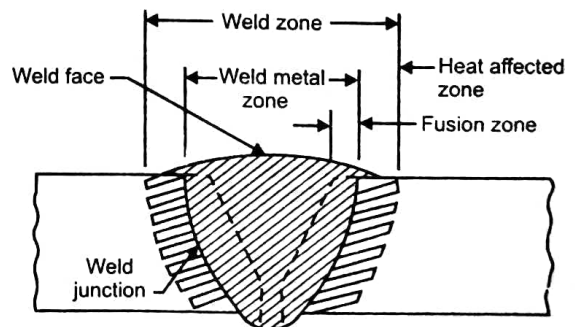

**Fig. 5.45.** Typical microstructures in the heat-affected zone of a butt weld
**Heat-affected Zone :** Parent metal metallurgically affected by the heating of welding (or cutting), but neither melted nor made plastic. (Fig. 5.45).